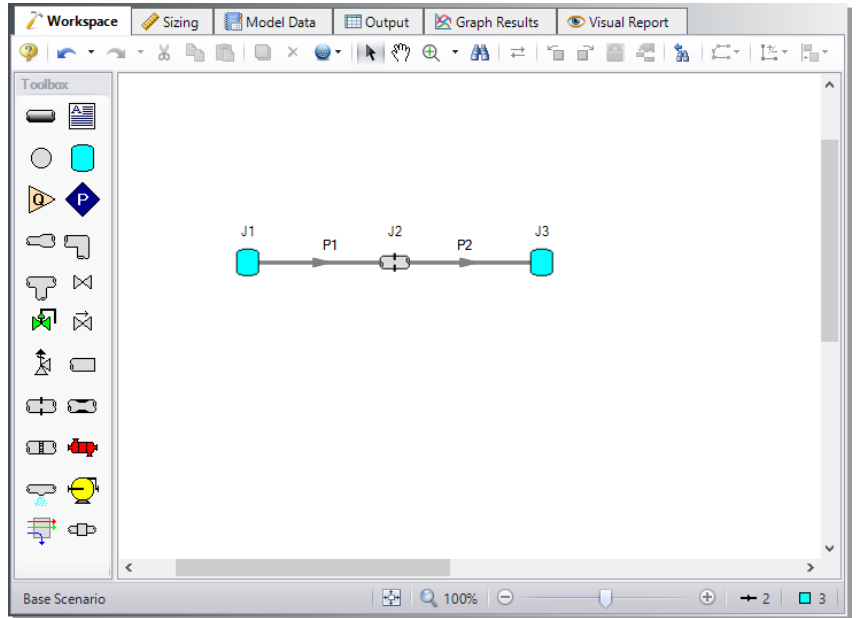

Figure 2.4f Walk through model with all objects placed
- **Activate the Pipe Drawing Tool again**, position the mouse pointer on the J2 Orifice, then press and hold the left mouse button. Stretch the pipe across to the J3 Tank, and then release the mouse button. Your model should now look similar to Figure 2.4f.